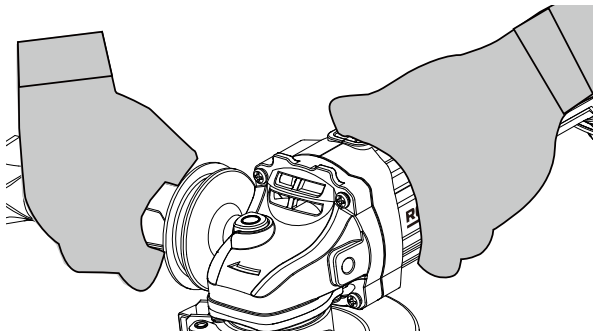

Figure 6
1. HAND GRIP AREAS (SEE FIG. 6)